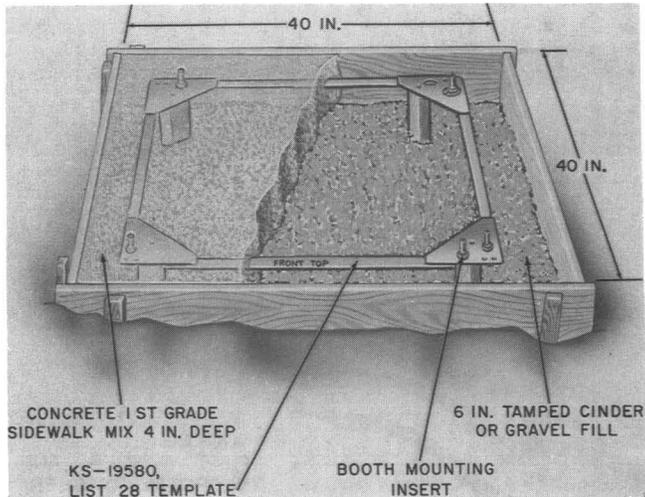

Fig. 11—Concrete Base Preparation With KS-19580, List 28 Template
3.03 When necessary to provide a concrete base, a KS-19580, List 28 foundation template (Fig. 11) is used. Install the template as follows:
- (a) Prepare a form 40-inch square with an inside depth of 10 inches (Fig. 11).
- (c) Position the template in the form on wooden blocks so that the top of five mounting inserts will be flush with concrete base as shown in Fig. 11.